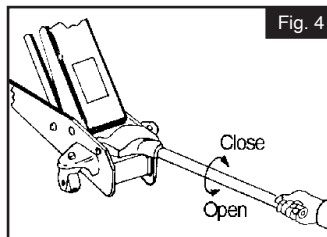

Fig. 4
1. Turn the handle counter-clockwise no more than two turns to open. See Figure 4.